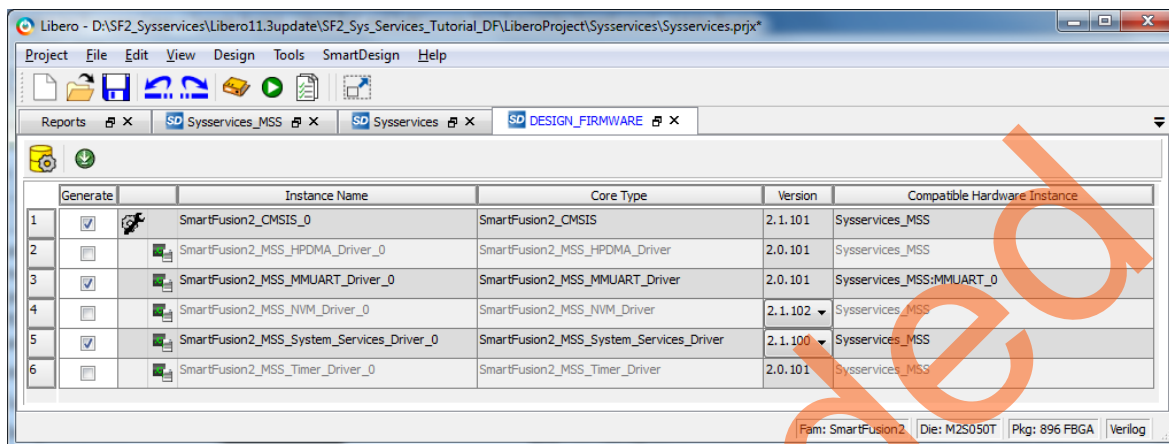

Figure 22 • DESIGN_FIRMWARE Window
2. Clear all drivers except CMSIS, MMUART_0 and System Services as shown in Figure 22.